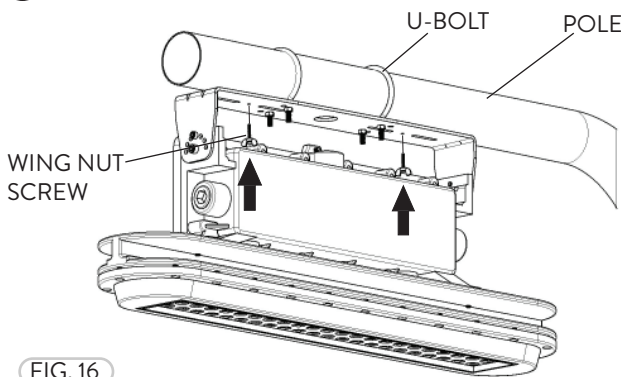

FIG. 16
- 3 Tighten the nuts to the U-Bolts and tighten the Wing Nut Screw from the bottom of the Trunnion Mount to secure the Pole (Fig. 16).